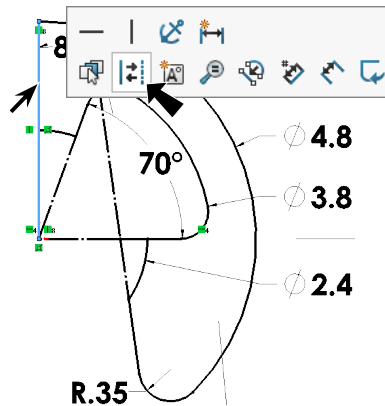

Fig. 15
Step 3. Click **vertical radii** and click **Construction Geometry**  on the context toolbar, **Fig. 15**.